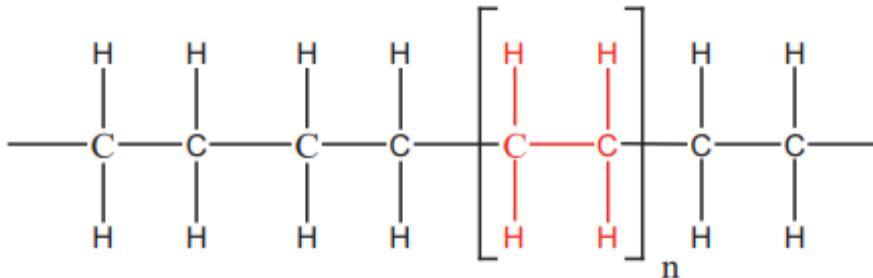

Figure 4.3: Structure of polyethylene (polyethene)
- **Synthetic polymers** are those which are human-made polymers. Synthetic polymers are sometimes referred as “plastics”, of which the well-known ones is polyethylene (**Figure 4.3**). It has no taste or odor and is lightweight, nontoxic and relatively cheap.